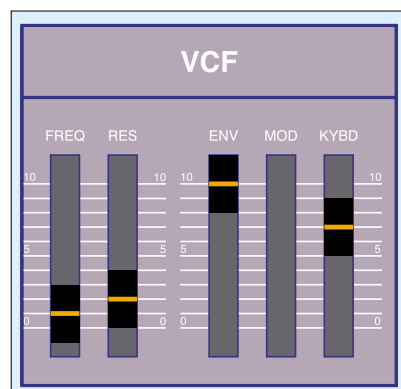

Figure 8: The VCF settings.
- ▶ open a great deal during the Attack phase of the envelope. This means that the Freq slider in the VCF section must be close to zero, and the Env fader must be at or near its maximum. Furthermore, as you should know from the theory explained two months ago, there must be just a touch of resonance to create the correct harmonic profile, and the cutoff frequency must track the keyboard at a little less than 100 percent. If I ignore the Mod fader, this allows me to define the VCF section as shown back in Figure 8.